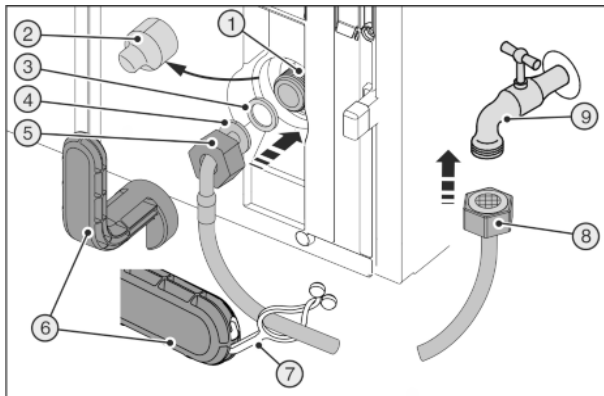
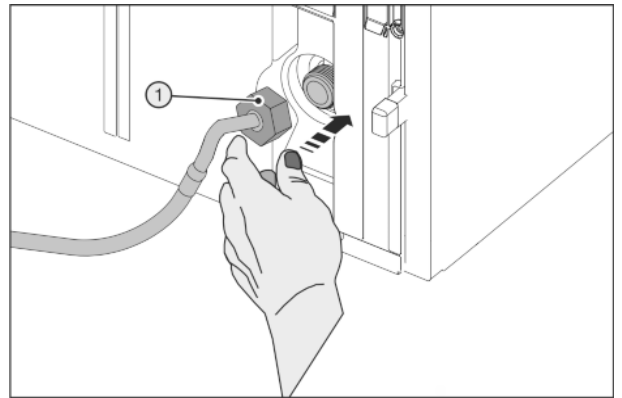

Fig. 28
Fig. 29
Broken auxiliary tool Fig. 28 (6).
- ▶ Only use an auxiliary tool Fig. 28 (6) at room temperature.
- ▶ Remove the cover Fig. 28 (2).
- ▶ Easy to fit: Place the straight end of the hose Fig. 28 (8) to the left on the floor.
- ▶ Slide the nut Fig. 28 (5) over the angled end of the hose Fig. 28 (4) up to the end and secure.
- ▶ Moisten Fig. 28 (3) the seal and push onto the nut Fig. 28 (5).
- ▷ The seal Fig. 28 (3) lies flat and is easily retained.
- ▶ Position the nut Fig. 29 (1) carefully and screw it directly onto the thread with two fingers until it is seated securely.
- ▶ Tighten the nut Fig. 29 (1) clockwise with the auxiliary tool Fig. 28 (6) until maximum torque is reached and the auxiliary tool Fig. 28 (6) overtightens.
- ▶ Screw the nut Fig. 28 (8) onto the stopcock Fig. 28 (9).
- ▶ Tighten the nut Fig. 28 (8) clockwise with the auxiliary tool Fig. 28 (6) until maximum torque is reached and the auxiliary tool Fig. 28 (6) overtightens.
- ▶ Turn the water supply stopcock Fig. 28 (9) on and check the whole water system for leaks.
- ▶ Hook the clip Fig. 28 (7) into the auxiliary tool Fig. 28 (6) and fix it to the stainless steel pipe to store it.